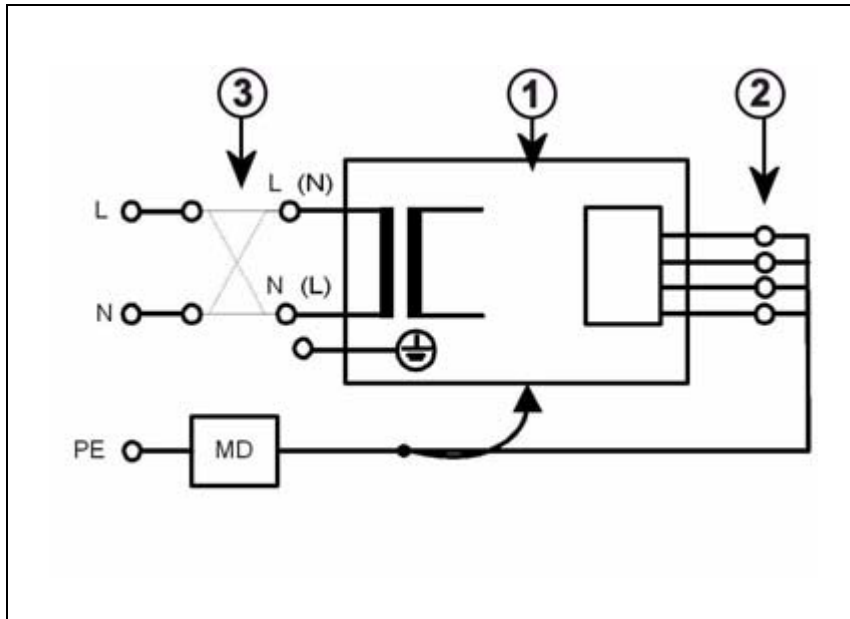

Fig. 4: Measuring circuit for direct measurement of the leakage current in compliance with DIN VDE 0751-1/2001-10, Fig. C5 for protection class I.
If the direct measurement of the system leakage current is used (measurement setup according to (Fig. 4 / p. 16)), the system must be insulated during the measurement and must not be touched.
- ⇒ **No housing parts of the system may be touched during direct measurement of the system leakage current (measurement setup according to (Fig. 4 / p. 16))**